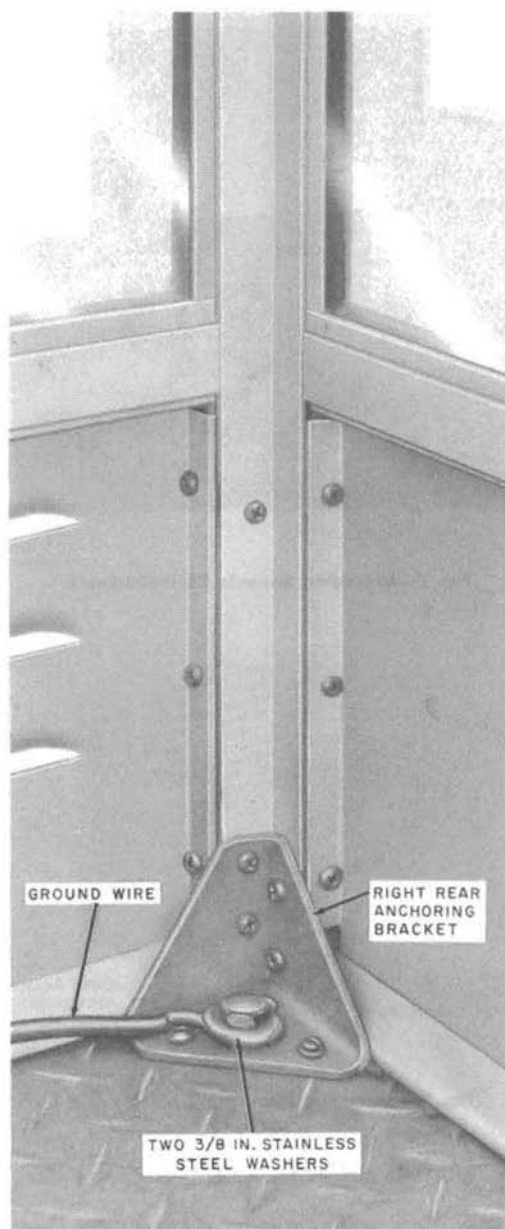

Fig. 8—Grounding Screw in KS-16797 Booth
- (d) **KS-16797 Universal Booth:** This booth will require the use of the mounting bolt in the right rear corner for connecting the ground wire (Fig. 8) unless a KS-16797, List 21 junction box is used. When the junction box is used, the ground terminal in the junction box may be used for connecting ground wire.